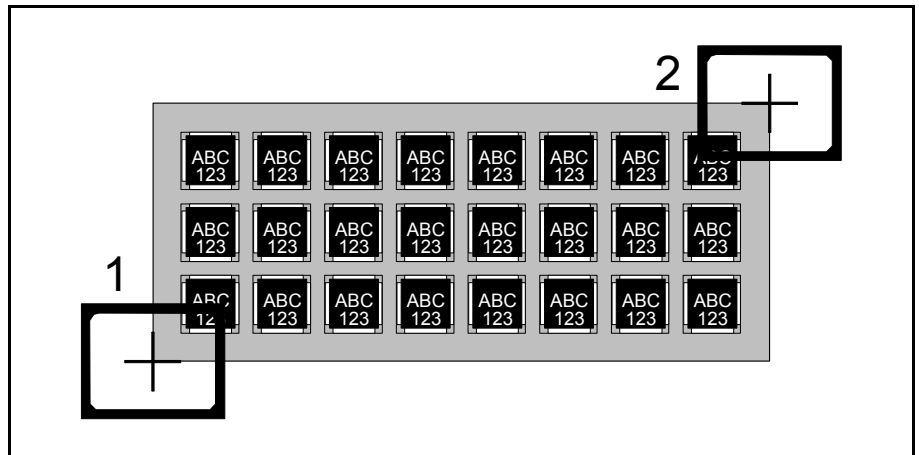

Figure 5-9. Positioning two tray corners
Figure 5-9 shows the cross hairs on the lower left corner at the first component (1), and on the upper right corner at the last component (2).